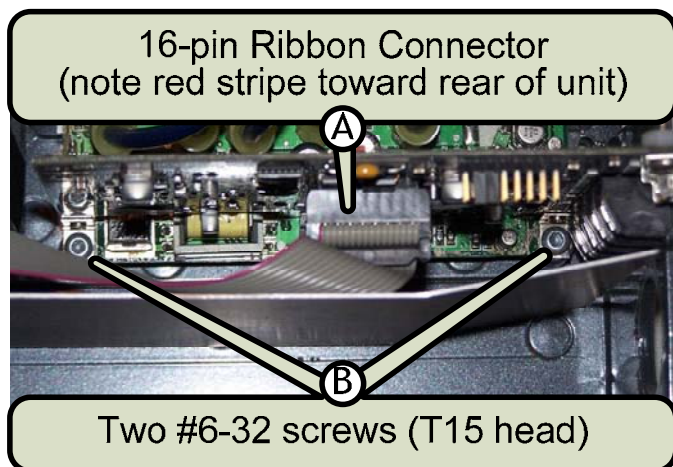
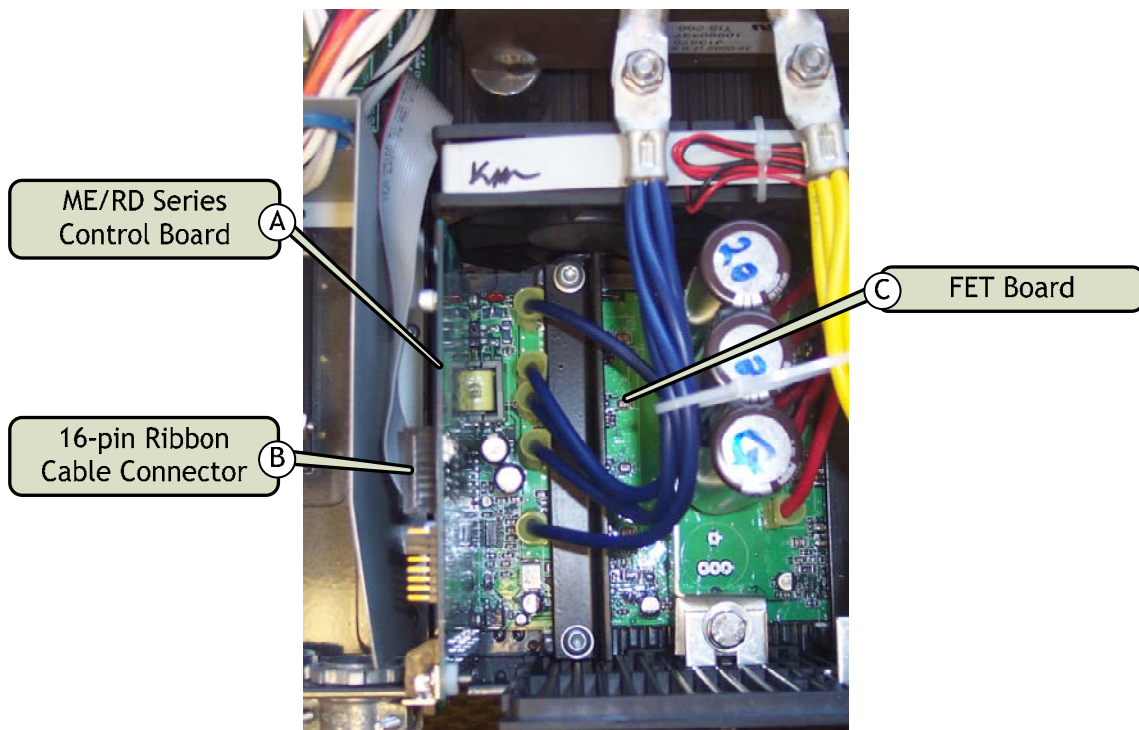

Figure 3, Top View of Control Board
Figure 6, ME or RD Series Inverter - Control Board Section
3.1.2 Locate the ME/RD Series control board in the inverter (figure 6, item A) and remove two #6-32 screws securing it to the inverter base; see figure 3, item B.
3.1.4 Locate and pull off the 16-pin ribbon connector; see figure 3, item A.
3.2.1 Remove the new control board from its antistatic bag and connect the 16-pin ribbon cable connector. Ensure it is connected with the red stripe on the ribbon cable facing toward the rear of the inverter (refer to figure 3, item A for reference) and the connector pins are aligned correctly before pushing in.
3.2.3 Replace the two #6-32 screws (T15 head) to secure the new control board to the FET board; see figure 3, item A.
4.1.3 Locate and remove the two #6-32 screws (T15 head) securing the control board; see figure 3, item B.
4.1.5 Look on the front of the control board and pull on the 16-pin ribbon connector to remove; see figure 3, item A.
4.2.3 Reconnect the 16-pin ribbon cable connector to the front of the new control board. Ensure it is connected with the red stripe on the ribbon cable facing toward the rear of the inverter (refer to figure 3, item A for reference) and the connector pins are aligned correctly before pushing in.
4.2.5 After the new control board is inserted into the bottom 16-pin FET board connector, screw in the two #6-32 screws (T15 head) to secure the new control board to the FET board; see figure 3 item B.